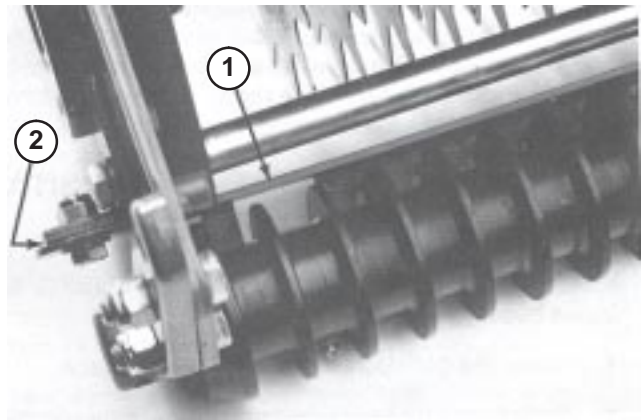

Figure 4
(Fig. 4)
1. Loosen the (2) capscrews securing front roller scraper to brackets. Slide front roller scraper to ensure the teeth of scraper are centered between the disks of the front wiehle roller (Fig. 4).